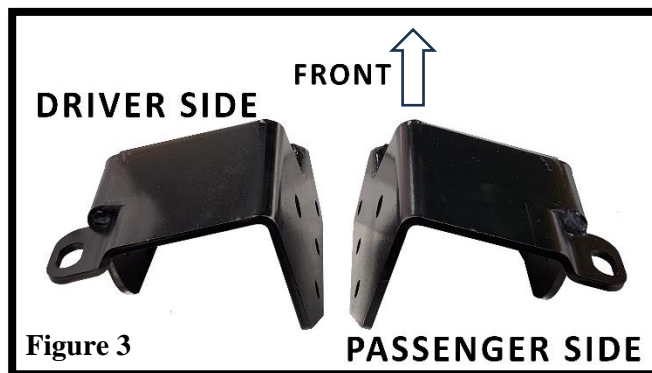

Figure 3
5. Identify the included driver (left) and passenger (right) side leaf spring mounts. **(Figure 3)**